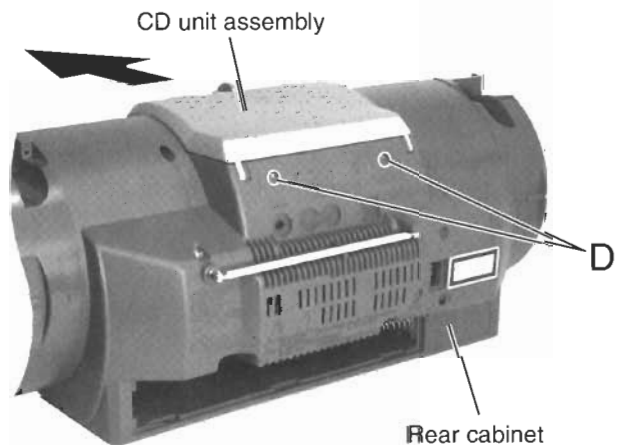

Fig.8
4. Remove the two D screws attaching the CD mechanism assembly on the back of the rear cabinet (See Fig.8).